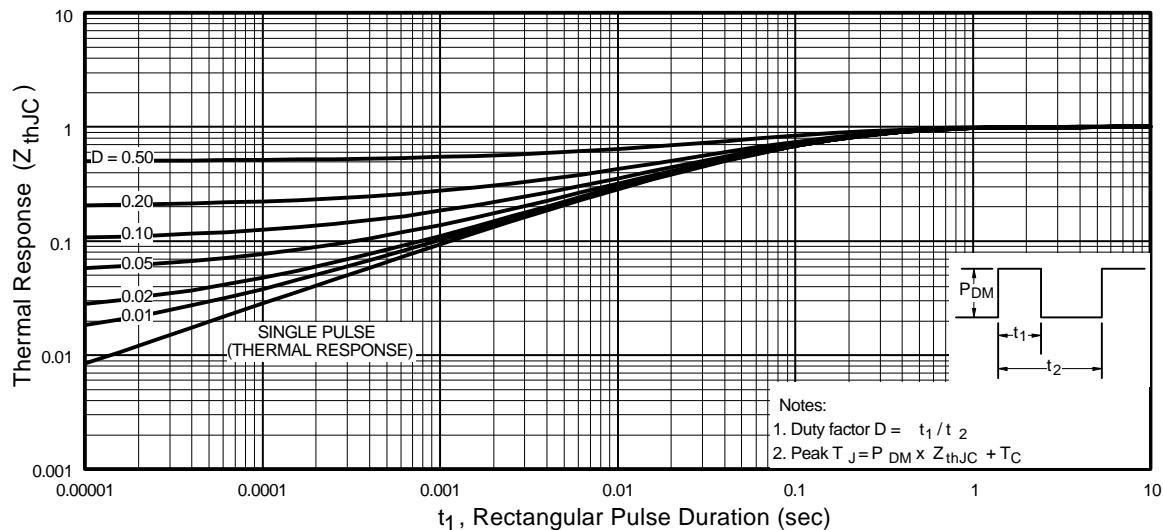

Fig 11. Maximum Effective Transient Thermal Impedance, Junction-to-Case
- ① Repetitive rating; pulse width limited by max. junction temperature. (See fig. 11)
- ④ Pulse width $\leq 300\mu s$; duty cycle $\leq 2\%$.
- ② Starting $T_J = 25^\circ C$, $L = 12.6mH$